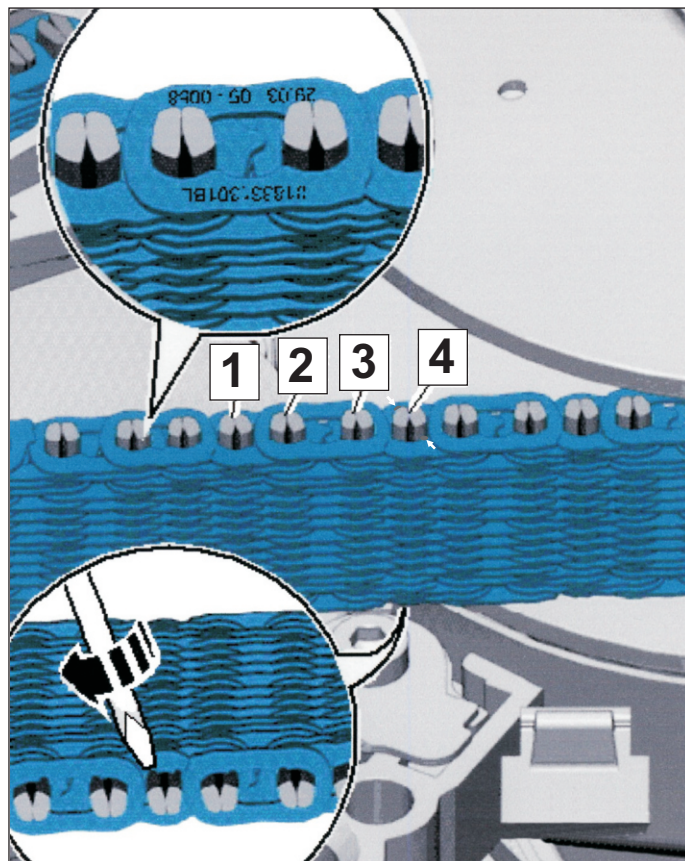

Figure 10
9. Turn the chain until the link with the production date stamp becomes visible as seen in figure 10.
10. Count over and identify the 4th pin to the right of the link with the production date stamping. Place a rag cloth under the chain and carefully knock off the 2 little spot welds on the end of the pin facing you. The pin is a two piece pin with a spot weld on the top of the left pin and one on the bottom of the right pin as it faces you (see figure 10).